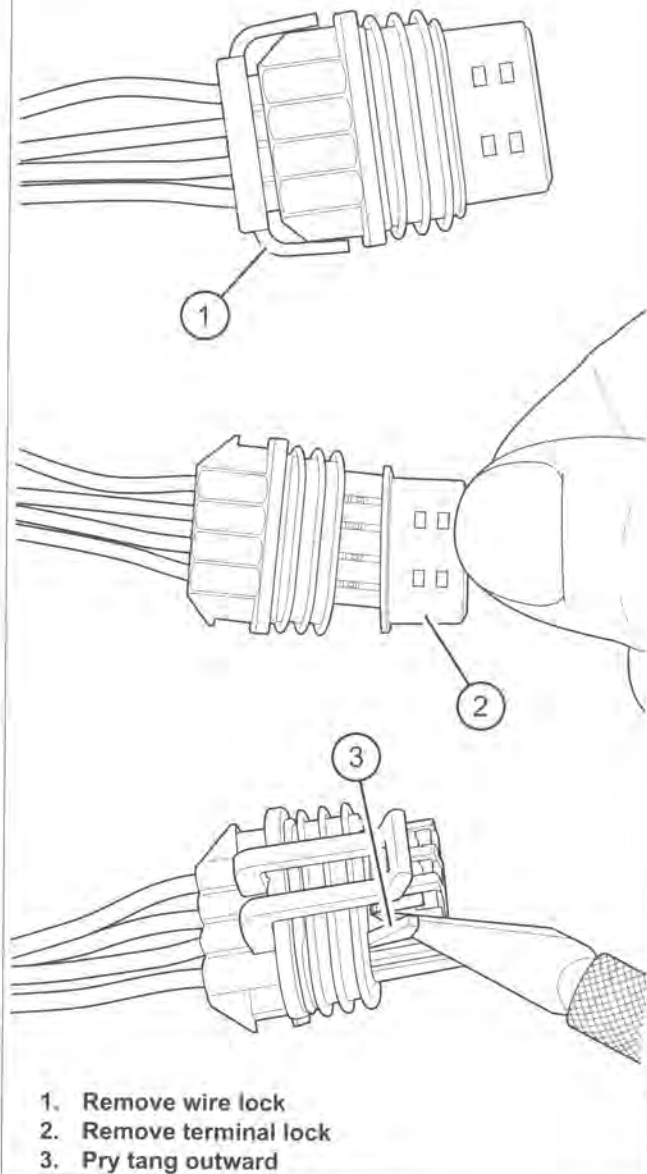

Figure A-29. Delphi GT 150 Sealed Connector: Removing Socket Terminals
1. See Figure A-29. If present, free one side of wire lock (1) from ear on wire end of socket housing. Release the other side if necessary. Release wires from channels in wire lock. Remove appropriate terminals from housing.
2. Use a fingernail to pry colored terminal lock (2) loose. Remove from mating end of socket housing.
3. Use the thin flat blade from a hobby knife. Gently pry tang (3) outward away from terminal. Tug on wire to back terminal out wire end of chamber. Do not pull on wire until tang is released or terminal will be difficult to remove.